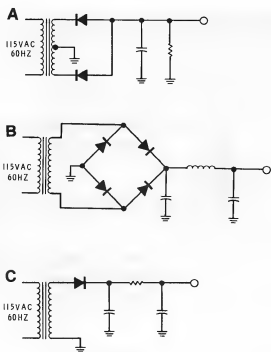

Figure 4-22
- Identify the circuits shown in Figure 4-22.
- The circuits shown in Figure 4-22 are: